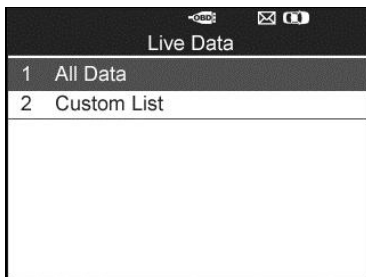

Figure 4.29
- 1) To retrieve customized live sensor data, use the **UP/DOWN** scroll button to select **Custom List** from **Live Data** and press the **Y** button (Figure 4.29).